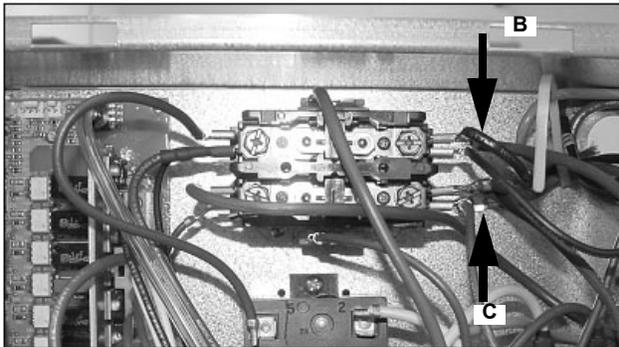

Figure 16.
- (Figure 16) Crankcase heater (B and C) – black leads (both on line side of contactor)